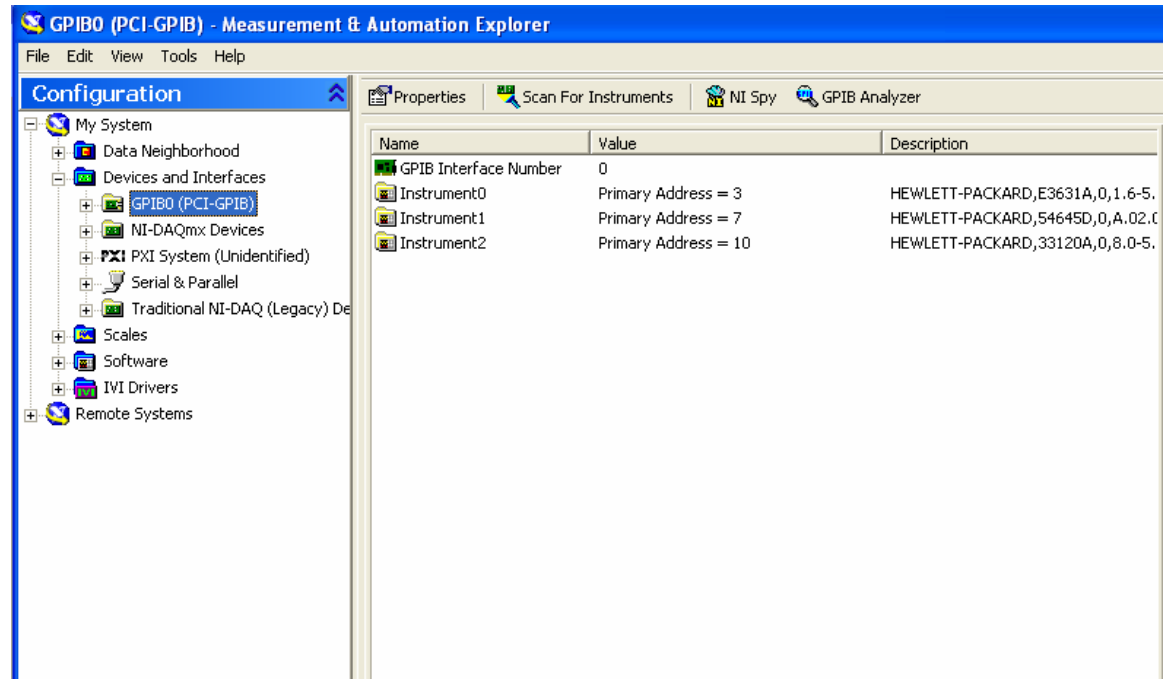

Figure 4. GPIB instrument addresses
- d. Left-Click on GPIB0 (PCI-GPIB). Figure 4 will pop up.